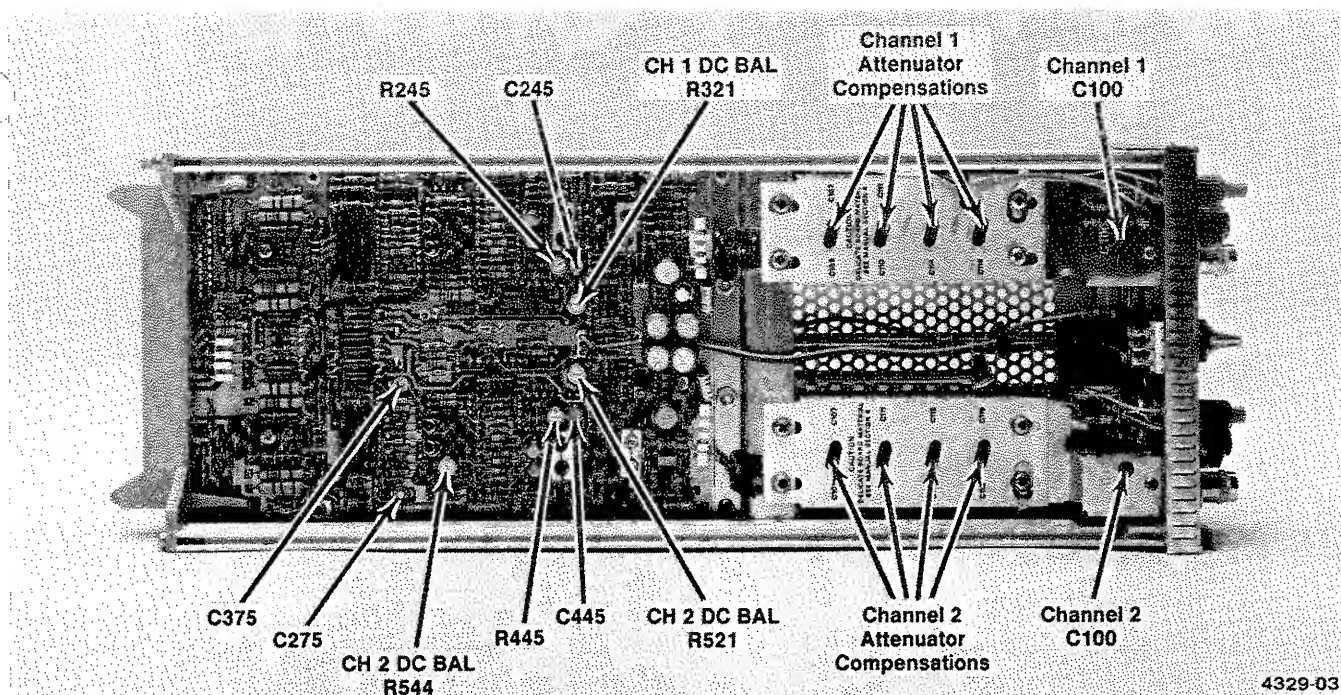

Fig. 4-1. Locations of adjustments used in this procedure.
The locations of the 7A18A adjustments are shown in Fig. 4-1.
- d. ADJUST—Channel 1 DC Balance, R321 for minimum trace shift as the CH 1 VARIABLE control is rotated from fully counterclockwise to fully clockwise. See Fig. 4-1 for adjustment location.
- h. ADJUST—DC BAL, R521, for no trace shift while switching CH 2 POLARITY switch from +UP to INVERT. See Fig. 4-1 for adjustment location.
- i. ADJUST—CH 2 VARIABLE DC BAL, R544, for minimum trace shift as the CH 2 VARIABLE control is rotated from fully counterclockwise to fully clockwise. See Fig. 4-1 for adjustment location.
g. ADJUST—Channel 1 C100 for optimum square corner on the displayed waveform (use tuning tool). See Fig. 4-1 for adjustment location.
k. ADJUST—Channel 1 C100 for optimum square corner on the displayed waveform. See Fig. 4-1 for adjustment locations.
e. ADJUST—CH 2 attenuator compensations as given in Table 4-3 for optimum square corner and flat top on the displayed waveform (use tuning tool). Re-adjust the generator output at each switch position to provide six divisions of deflection. See Fig. 4-1 for adjustment location.
i. ADJUST—CH 1 attenuator compensations as given in Table 4-3 for optimum square corner and flat top on the displayed waveform. Re-adjust the generator output at each switch position to provide six divisions of deflection. See Fig. 4-1 for adjustment location.
f. ADJUST—C245, R245, and C275, for optimum square-wave response with minimum aberrations. Use the low-capacitance screwdriver to adjust the variable capacitors. Repeat these adjustments until optimum response is obtained. See Fig. 4-1 for adjustment location.
j. ADJUST—C445, R445, and C375, for optimum square-wave response with minimum aberrations. Use the low-capacitance screwdriver to adjust the variable capacitors. Repeat these adjustments until optimum response is obtained. See Fig. 4-1 for adjustment location.